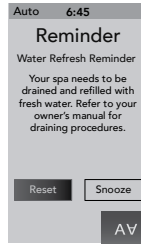

Figure 15.0f
24. **Water Refresh Reminder:** This message will appear when the “Water Refresh” timer has expired (Figure 15.0f). The water needs to be drained and refilled with fresh water.